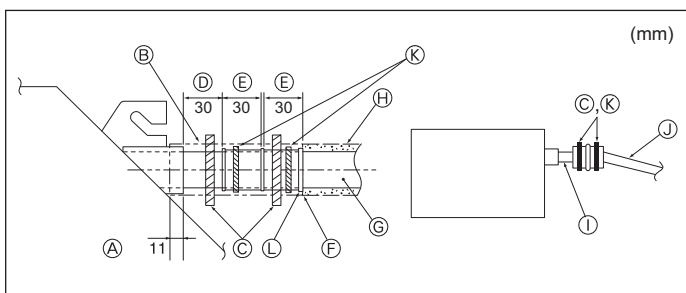

Fig. 3-5
- ① O.D.  $\phi$ 38 PVC TUBE for grouped piping. (9 mm or more insulation)
- ② Up to 500 mm
1. Connect the drain socket (supplied with the unit) to the drain port. (Fig. 3-5) (Affix the tube using PVC adhesive then secure it with a band.)